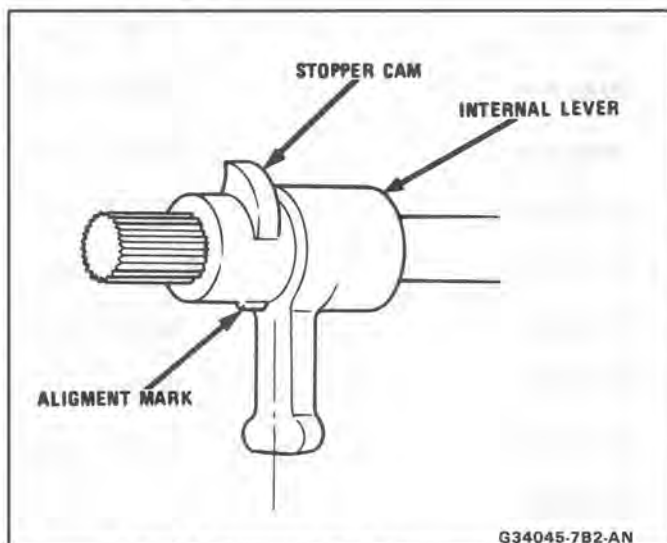

Fig. 46 Stopper Cam Alignment Mark
- Align the stopper cam alignment mark with the center on the internal lever (Fig. 46).